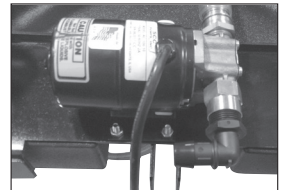

Figure 3
6. Attach 90° barb fitting [9], turn until barb is tight and pointing left (Figure 3).